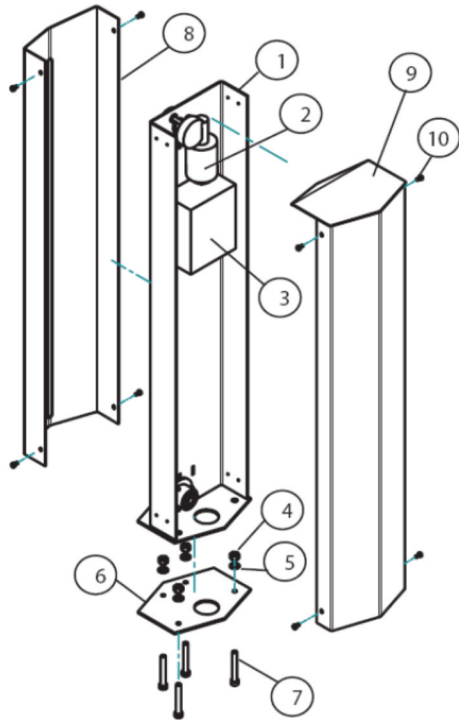
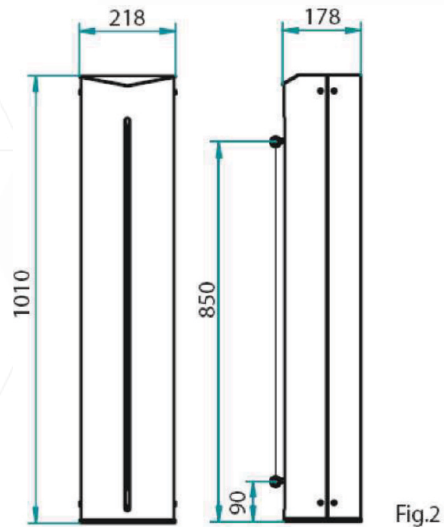

Fig.4
Fig.2
7.2. Installation of the Column (Fig. 1, Fig. 2, Fig. 4)
5. Unscrew the 8 screws [10] take off the frontal [8] and the rear cover [9] of the column (Fig. 4)